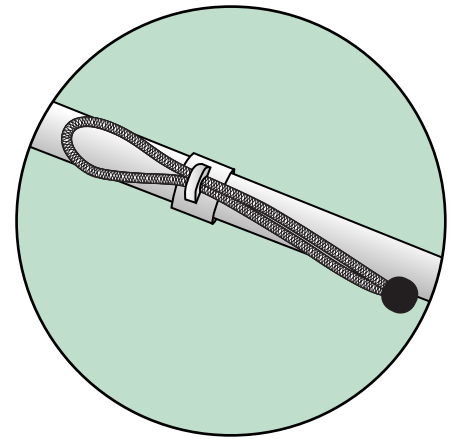

Fig 3
- 3, The bottom fixture is fitted with a bungee, (see Fig 3).